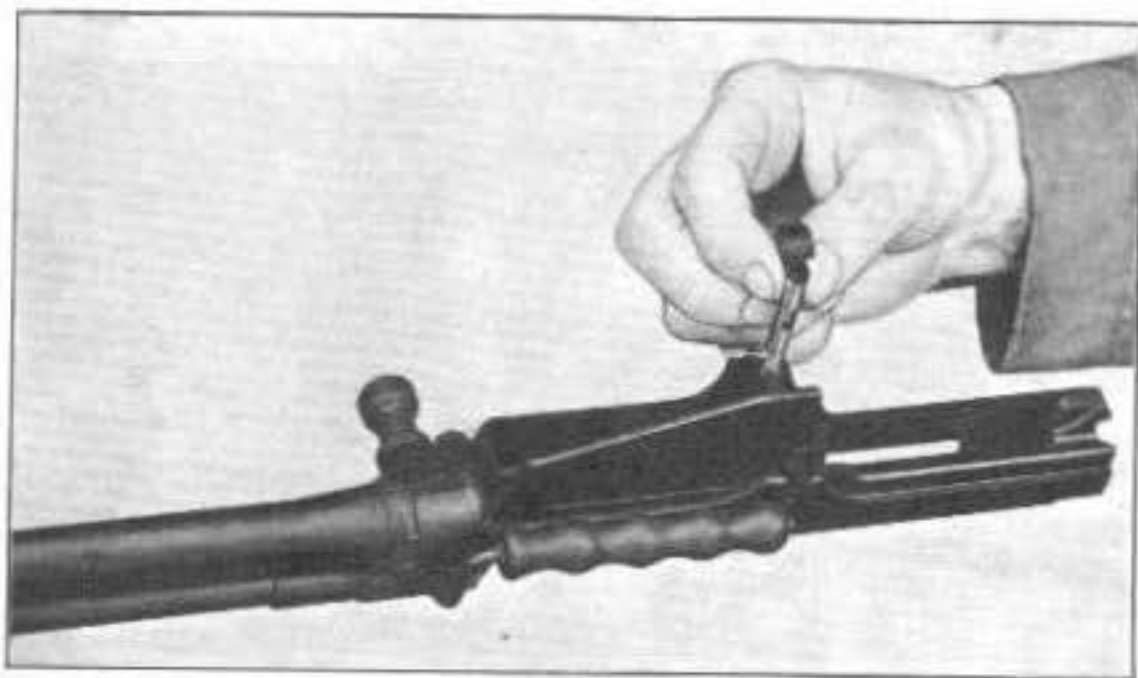

Fig. 85
b) **Holding open device.** — Grasp the holding open device and remove from its housing (fig. 85).